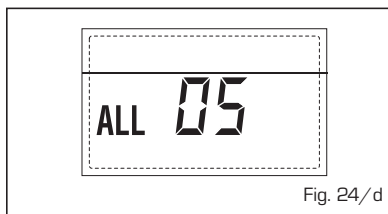

Fig. 24/d
**- BLOQUEO LLAMA "AL 06"** (fig. 24/e)